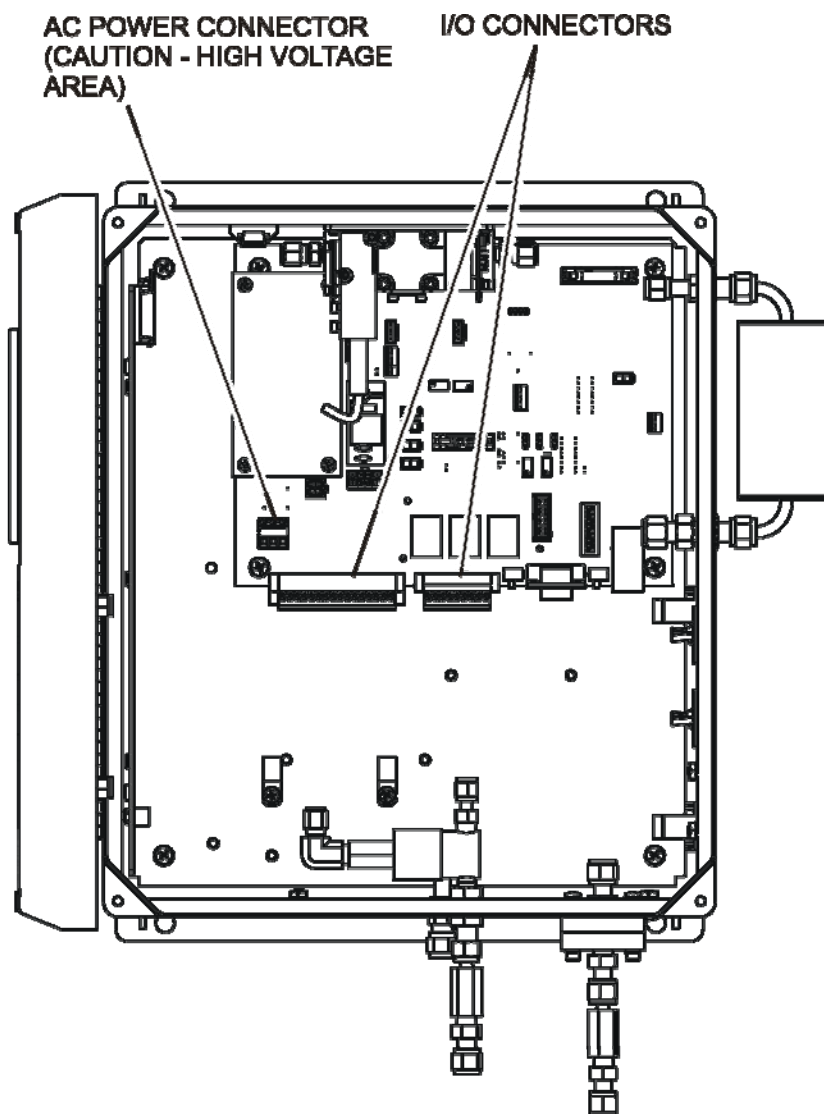

Figure 4-5: NEMA Electrical I/O Connections
2. Attach the leads of the power line to the AC power connector (see Figure 4-5).
In the NEMA configuration of the M465H, the I/O connectors are located internally in the instrument. See Figure 4-5 for their location. Connection to these terminals is usually made via a conduit connection to the NEMA enclosure. A standard conduit penetration may be added to one of the walls of the enclosure for this purpose, or the existing penetration may be used.